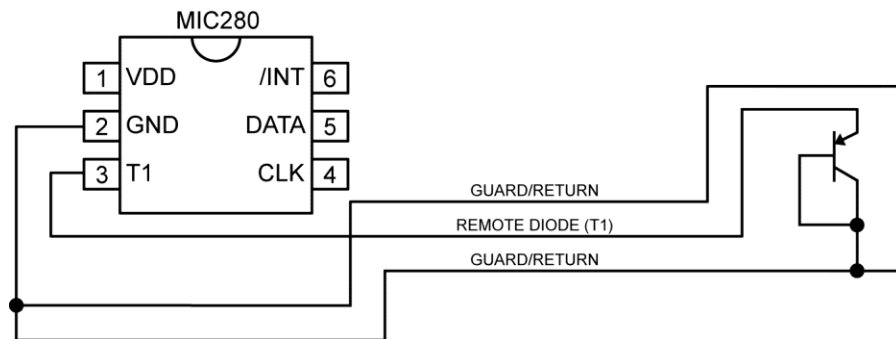

Figure 6. Guard Traces/Kelvin Ground Returns
- providing a Kelvin connection for the base of the diode. See Figure 6.
- When using the MIC280 to sense the temperature of a processor or other device which has an integral thermal diode, e.g., Intel's Pentium II, III, IV, AMD Athlon CPU, Xilinx Virtex FPGAs, connect the emitter and base of the remote sensor to the MIC280 using the guard traces and Kelvin return shown in Figure 6. The collector of the remote diode is typically inaccessible to the user on these devices. To allow for this, the MIC280 has superb rejection of noise appearing from collector to GND.